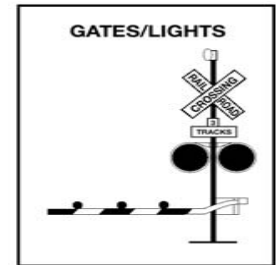

FIGURE 2.18
**Flashing Red Light Signals.** At many highway-rail grade crossings, the crossbuck sign has flashing red lights and bells. When the lights begin to flash, stop! A train is approaching. You are required to yield the right-of-way to the train. If there is more than one track, make sure all tracks are clear before crossing. See Figure 2.18.
**Gates.** Many railroad-highway crossings have gates with flashing red lights and bells. Stop when the lights begin to flash and before the gate lowers across the road lane. Remain stopped until the gates go up and the lights have stopped flashing. Proceed when it is safe. See Figure 2.18.